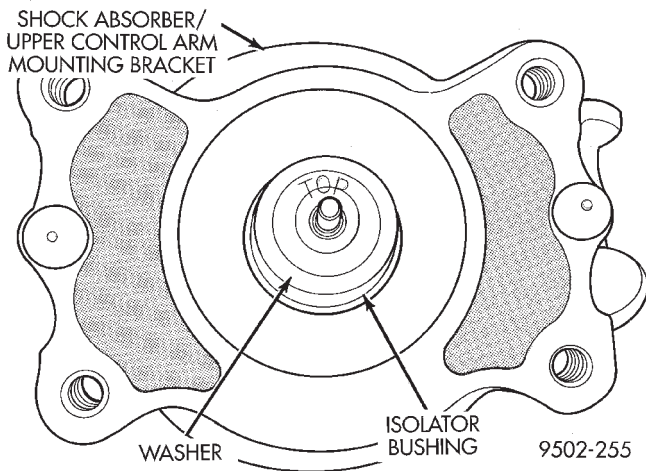

Fig. 20 Shock Absorber Rod Upper Washer
(14) Remove the washer (Fig. 20) from shock absorber rod.
(6) Install the upper washer on the rod of shock absorber and positioned with the word TOP facing up (Fig. 20).